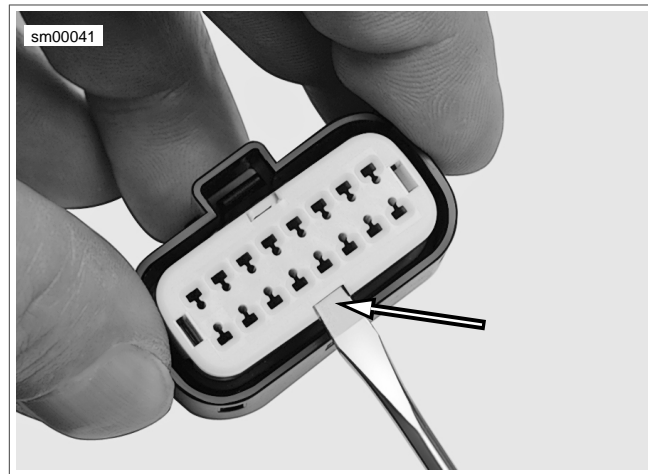

Figure A-36. Molex Connector: Secondary Lock Pry Slot (Socket Housing)
- a. **Socket Housing:** See Figure A-36. Use a small screwdriver in the pry slot. The slot next to the external latch provides a pivot point.